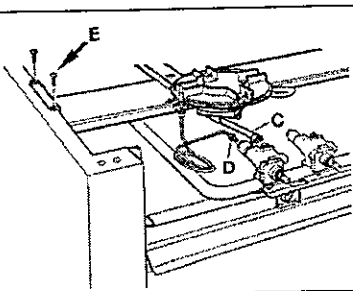

fig. 31
1) unscrew the lock nuts "C" and "D" and screws "E" (Fig. 31)